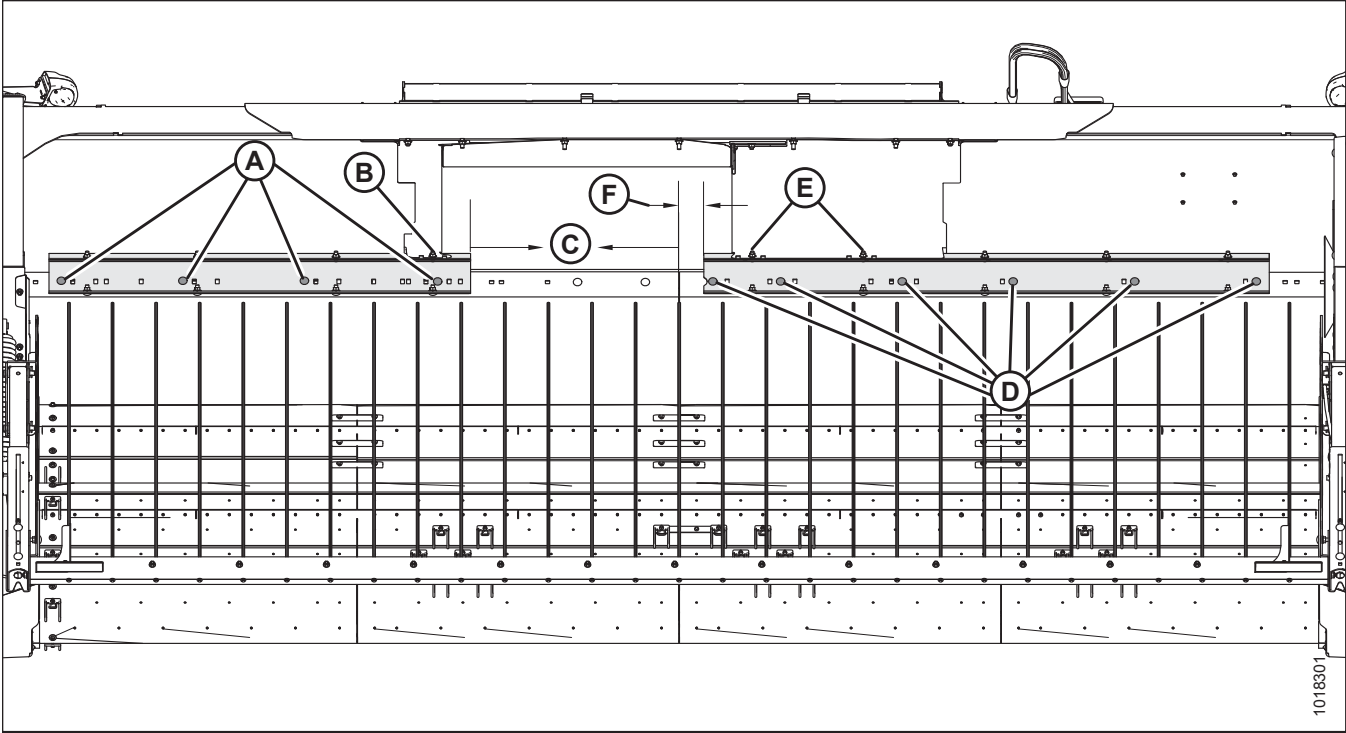

Figure 3.139: Factory Configuration 816 mm (32-1/8 in.)
1. Loosen three bolts (A) and remove cover (B) on both sides of the header to expose the stripper bracket attachment hardware.
- Figure 3.139, page 88